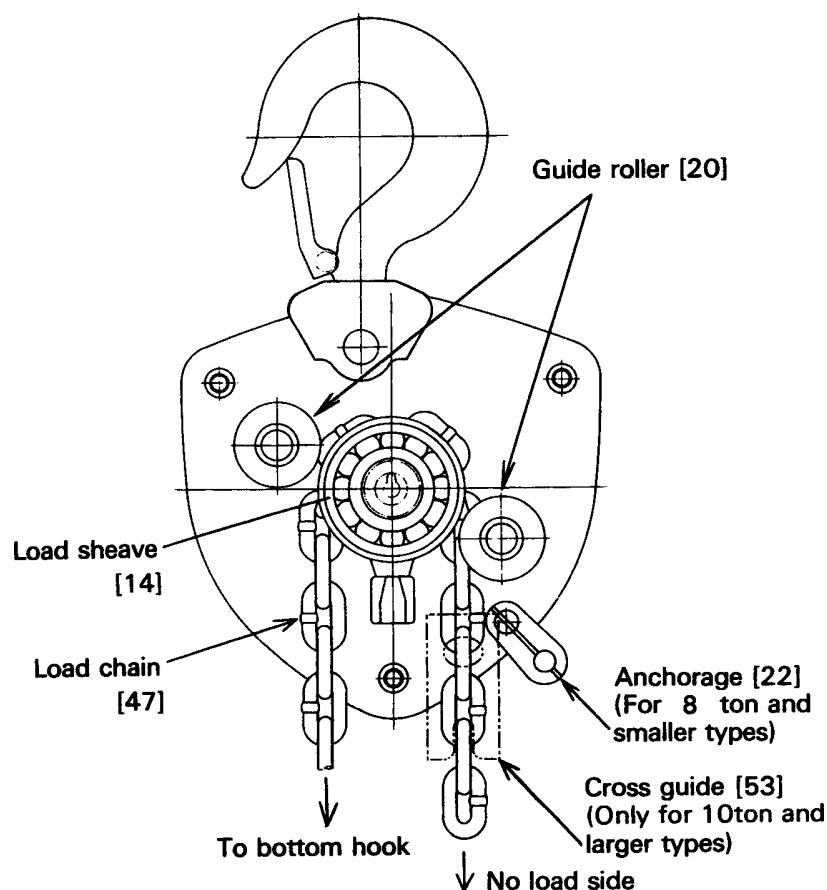

Figure 6-6 Reeving Assembly
- 13) Reeve the load chain [47] turning the pinion clockwise through the space between the left (bottom hook side) guide roller [20] and the load sheave [14]. See figure 6-6.